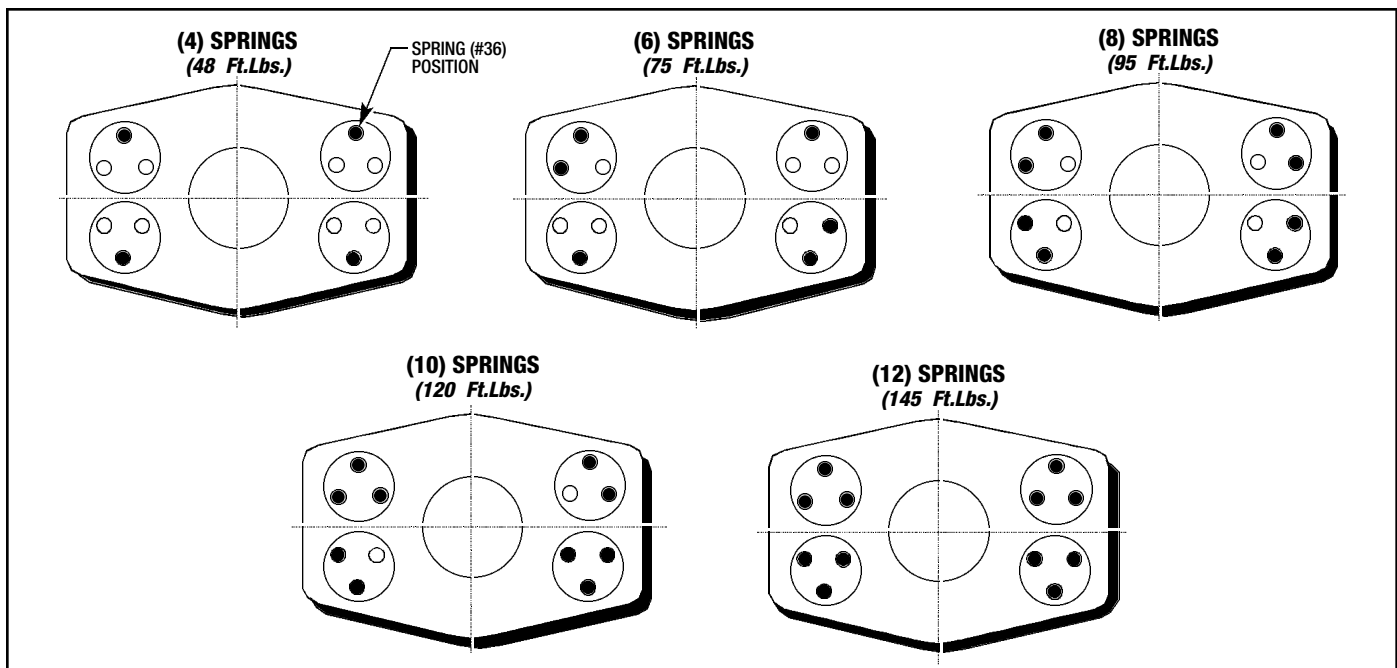

Figure 9.6 - Correct Placement of Springs (#36)
1. Place the proper amount of Springs (#36) into each Piston (#3) for your Torque Requirements. (See Figure 9.6 .)
2. Place a new Gasket (#122) on the Piston Housing (#10). Use the (2) Pins (#158) for alignment. **Do not use any Gasket Sealant on this gasket.**